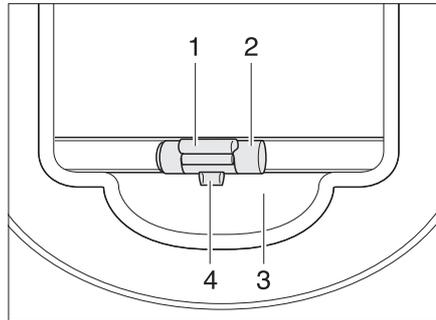

Fig. 27 Blind
- Closing:** ■ Pull blind downwards by the handle (Fig. 27,2) and lock it into place.
- Opening:** ■ Pull blind downwards gently by the handle (Fig. 27,2) and push the unlatching bar (Fig. 27,1) outwards. The lock (Fig. 27,4) is released from the holder (Fig. 27,3).